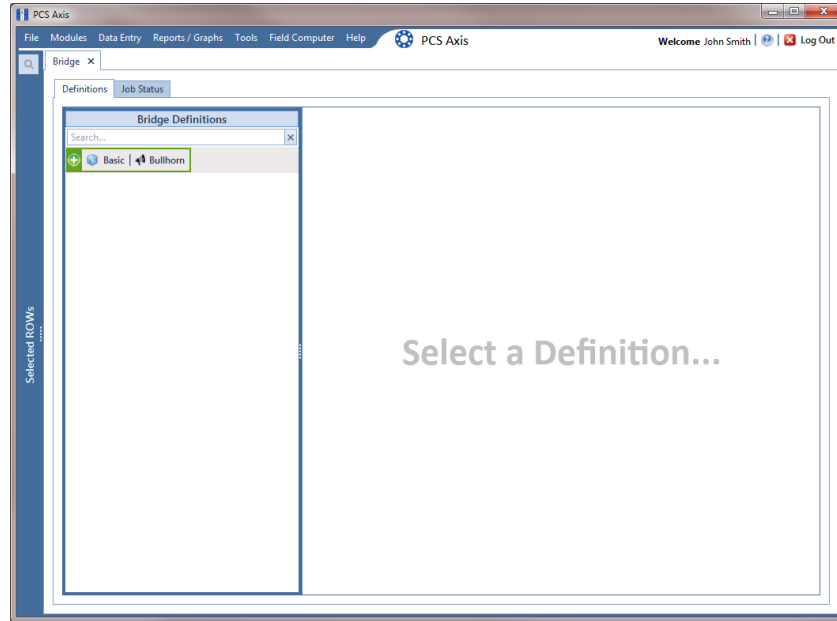

Figure 10-26. Bridge
- 2 Click **Tools** > **Bridge** to open the *Bridge* window (Figure 10-26, page 514)